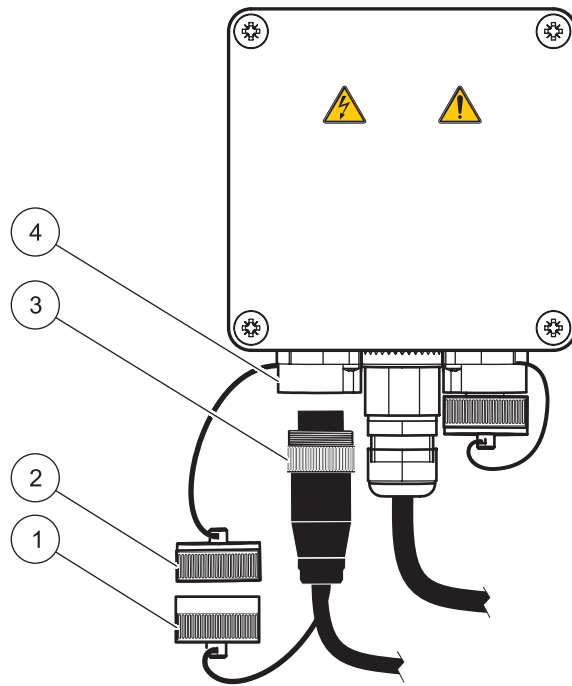

Figure 9 Analyzer connections
Electrocution hazard. If a power socket (item 4, Figure 9) is not used, make sure the cap (item 2, Figure 9) is installed and secured.